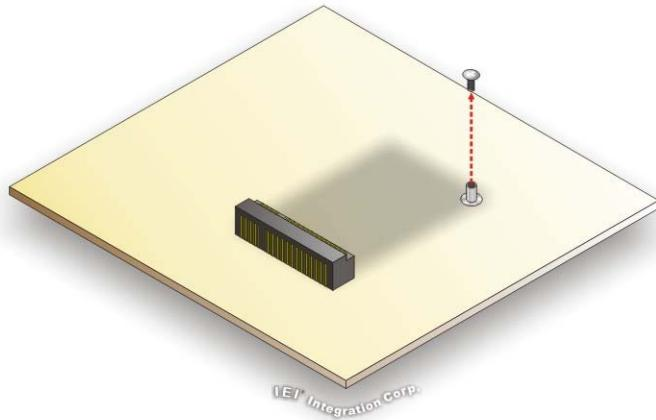

Figure 4-2: PCIe Mini Card Retention Screw Removal
Step 1: Locate the PCIe Mini card slot. Remove the preinstalled retention screw on the screw pillar of the PCIe Mini card slot as shown in (Figure 4-2).